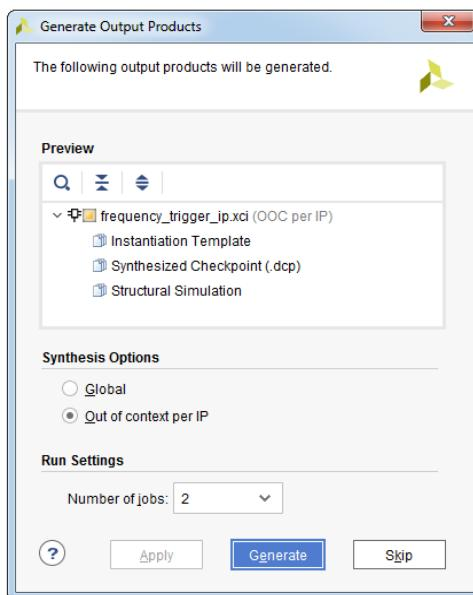

Figure 12.29: Generate Output Products window for frequency_trigger_ip core
41. In the **Generate Output Products** dialog box, click **Generate**, see Figure 12.29.